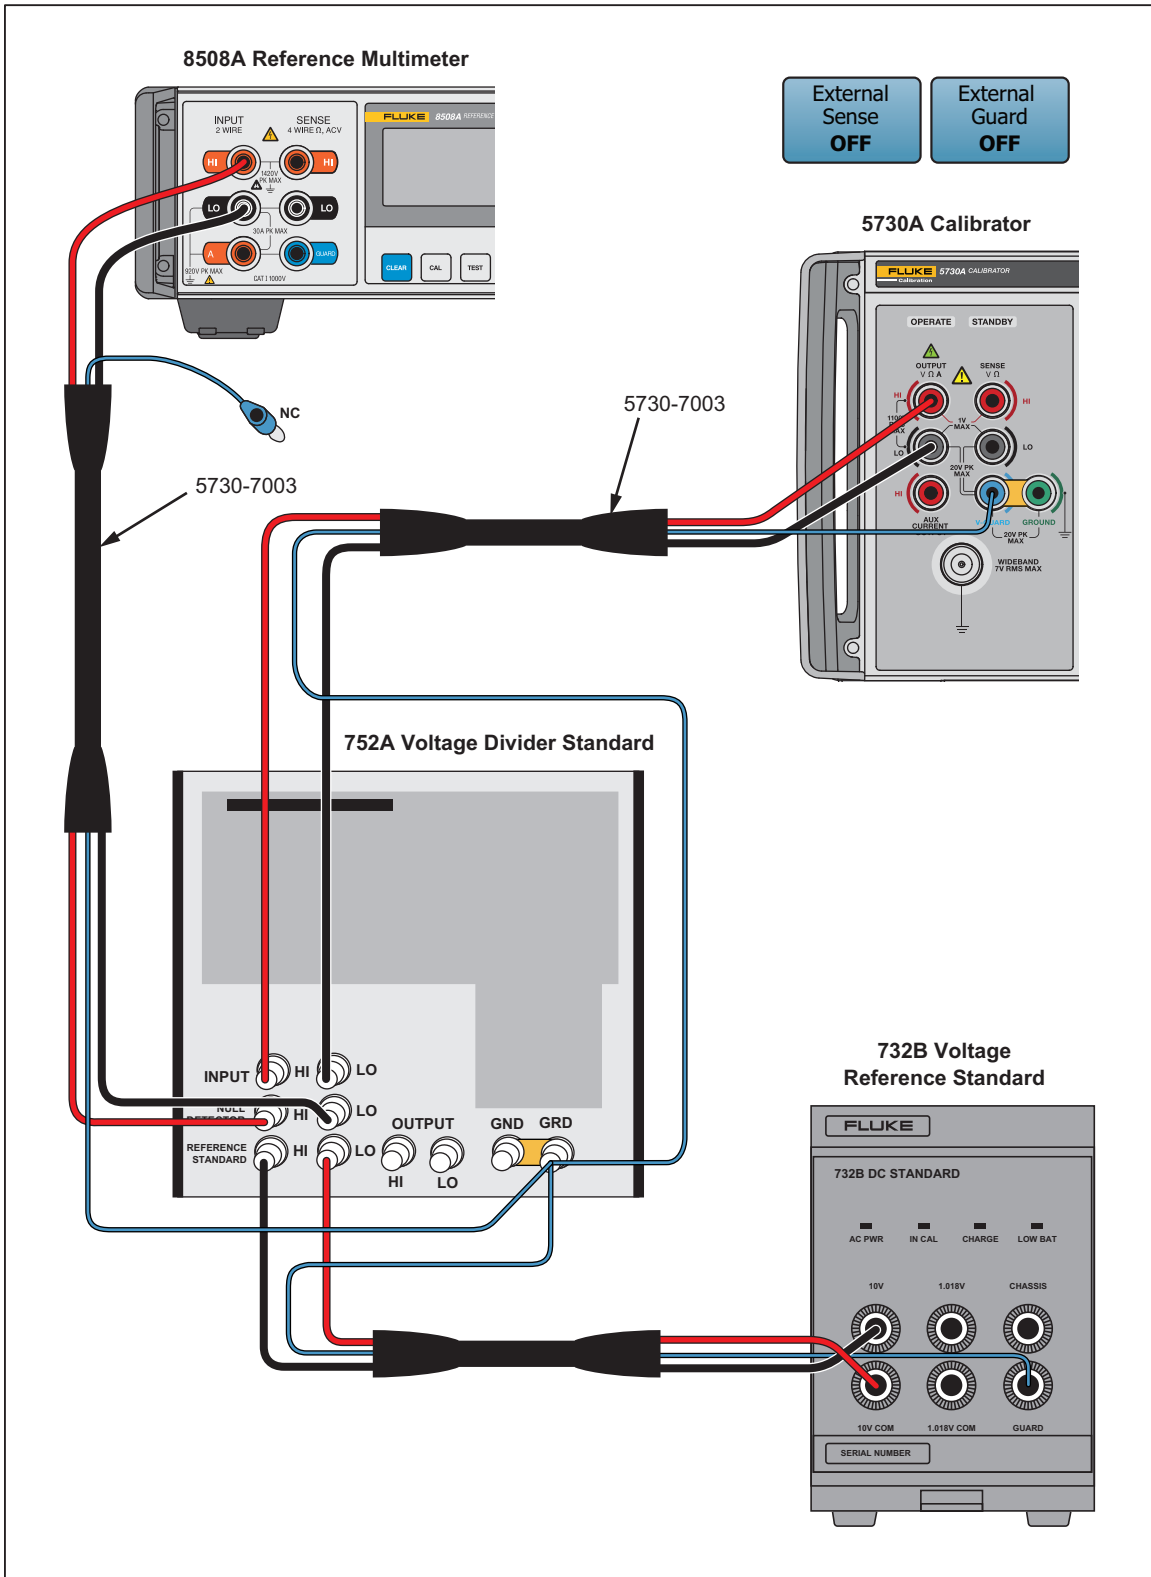

Figure 11. DC Voltage Calibration Connection
6. Remove the two shorts from the reference divider and connect the 732B 10 V Reference Standard and the Product as shown in Figure 11.